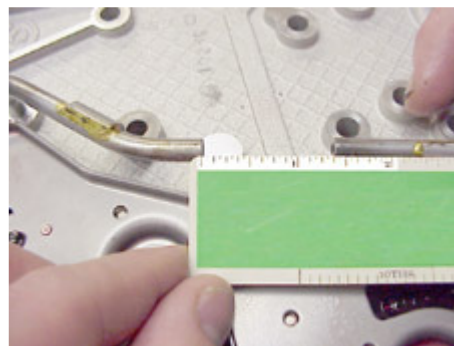

Figure 9: 1-3/8" gap
12) There should be a 1-3/8 gap between the two tubes after the cuts have been made. Place the two modified tubes into the valve body and measure the gap between the sections. **You must have exactly 1-3/8 inch between the two tube halves**, and some modification to the length may be necessary to fit the valve body (Figure 9).